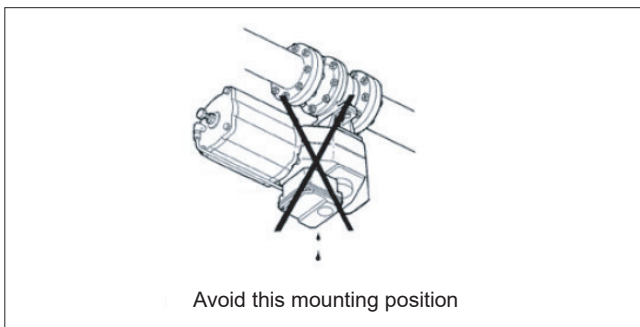

Fig. 4 Avoid this mounting position
NEVER LIFT THE VALVE OR VALVE/ACTUATOR ASSEMBLY BY THE ACTUATOR, POSITIONER, LIMIT SWITCH OR THEIR PIPING. PLACE LIFTING DEVICES SECURELY AROUND THE VALVE BODY. FAILURE TO FOLLOW THESE INSTRUCTIONS MAY RESULT IN DAMAGE OR PERSONAL INJURY FROM FALLING PARTS (SEE FIGURE 4).
- It is not recommended to install the valve with the stem on the underneath side because dirt in the pipeline may then enter the body cavity and potentially damage the stem packing (see Figure 4).
Install the valve in the pipeline so that the shaft is horizontal if possible. However, Valmet does not recommend installing the valve with the actuator on the underside (Figure 4) because dirt in the pipeline may damage the gland packing.